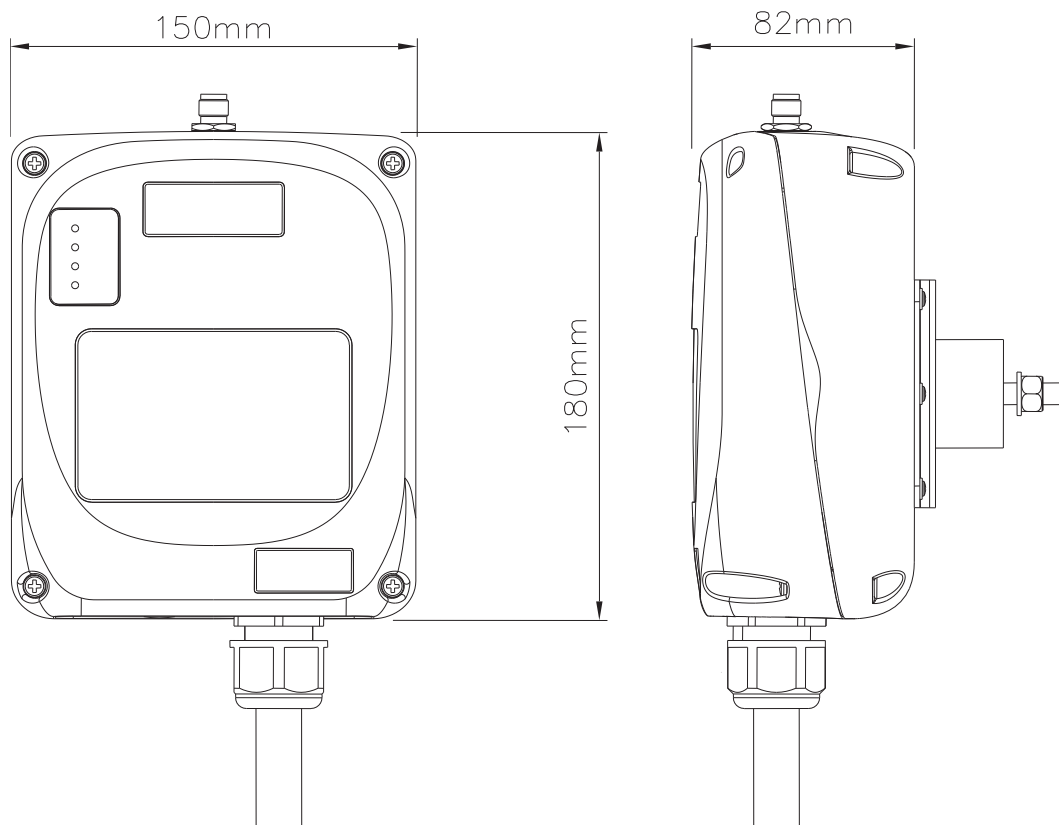

Fig. 17
3. Ensure the selected location has adequate space to accommodate the receiver. If an external antenna is used, always locate the receiver where the antenna is free from any obstacles from all directions to avoid the possibility of antenna damage (**see Fig. 17**).